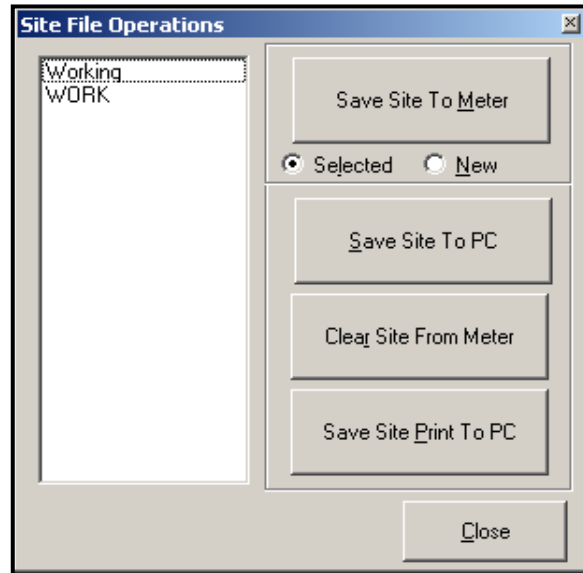

Figure 51: Site File Operations Window
3. Click on the [Site Files] button. The *Site File Operations* window, as shown in *Figure 51* below, opens.
1. Highlight the desired site in the left pane. (See *Figure 51 on page 103*.)